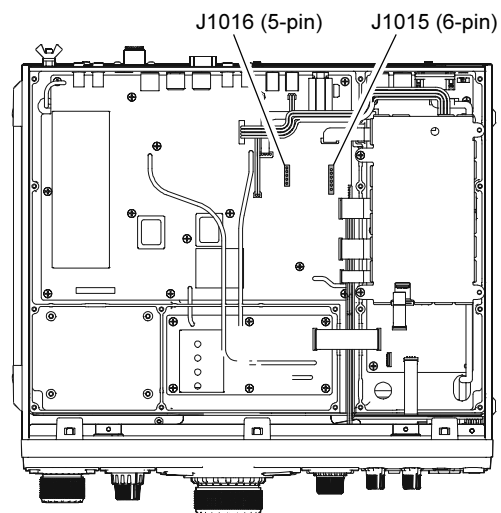

FIGURE 2
4. Refer to Figure 2 for the mounting location for the **DVS-6**.